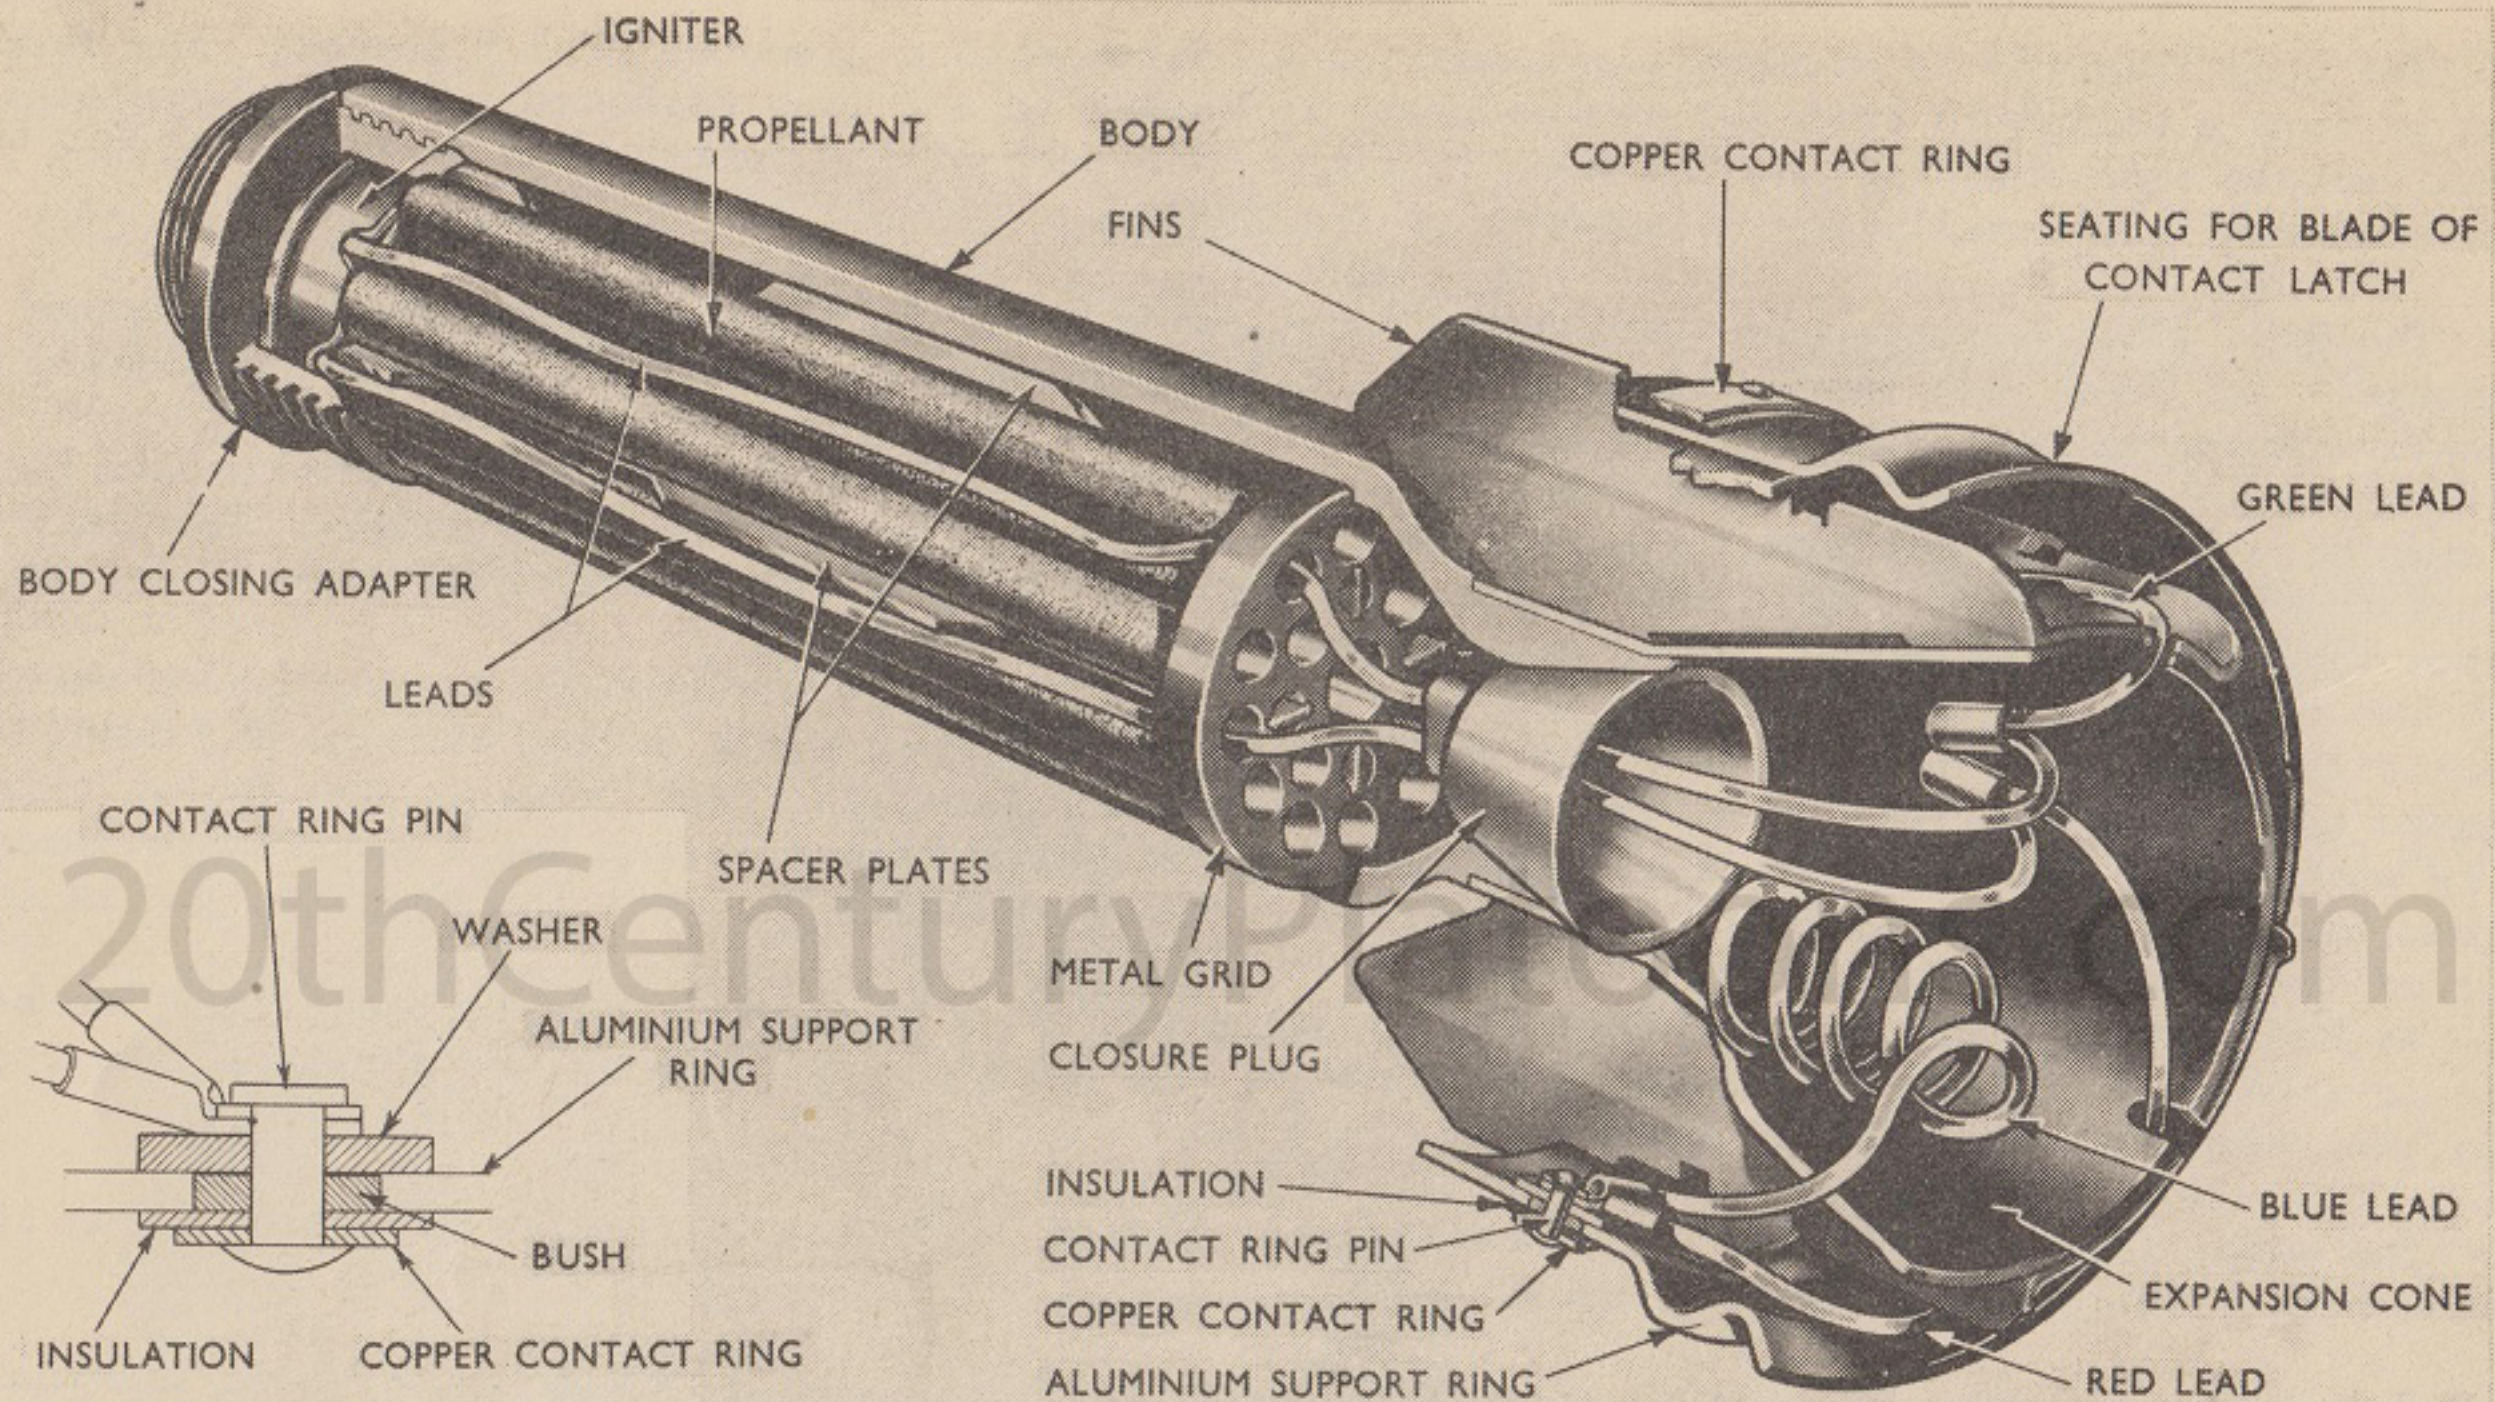

Fig. 17 Motor and Tail Assembly
24.0. The motor (Fig.17) consists of a body, spacer plates, propellant, igniter with connecting leads, and attached to the rear is the tail assembly.
26.0. The two spacer plates (Fig.18) fit inside the body to form four compartments for the propellant. A metal grid is attached to the plates at the end nearest the tail. (Fig.17). Fitted into each compartment formed by the spacer plates are three sticks of propellant.
out through the plug in the nozzle (Fig.17). To the end of one lead from the igniter is attached a wire with red insulation and to the second lead from the igniter is attached a wire with green insulation.
28.0. The tail assembly (Fig.17) consists of an expansion cone which is fitted to the motor tube at the nozzle, three double-bladed fins which are welded to the outside, and a band built up of three rings which encircles the fins. The innermost ring, is an aluminium support ring; the outer, a narrow copper contact ring, and separating the two is a ring of insulating material. The support ring is grooved to provide a seating for the blade of the contact latch and is not painted. When issued, the rocket is provided with a shorting clip which fits over the unpainted section at the front of the aluminium support ring and forms a connection between the aluminium support ring and the copper contact ring (Fig.14). This clip should always be in position when the rocket is stored or transported and is removed when the rocket is prepared for loading. Secured to the clip is a label marked "Safety shorting clip. Remove before firing."